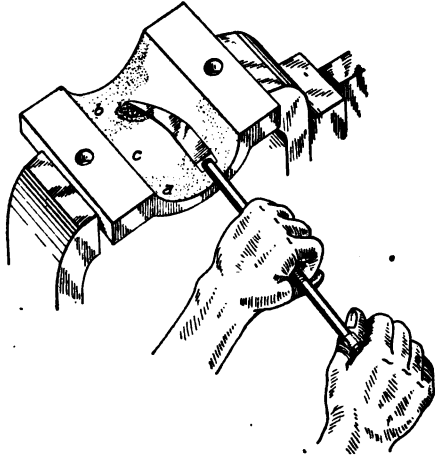
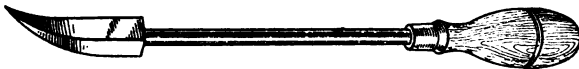

Fig. 14. Inside of Bearing Showing Spots Which Need Scraping
Fig. 15. Type of Bearing Scraper
*Scraping Process.* With the shims filed, place them in position and give the bearing another fitting. Remember the filing was done to bring the bearing together. When it is properly closed, the rod should fit tight enough to require some effort to push it around. Taking for granted that the bearing has been given a fitting and that it has been found to contain a number of black spots, as shown in Fig. 14, the scraping will be begun. For this operation a bearing
scraper, Fig. 15, is used. This may be procured at any supply store. The scraper is held as shown in Fig. 14. However, one who is accustomed to scraping may be able to handle the instrument better in another position. One very important point must be borne in mind and that is that the word scraping does not mean—as it usually does—scratching; scratching is detrimental to the bearing. By scraping is meant cutting from the surface of the bearing a very thin shaving of metal and at the same time leaving the surface of the bearing smooth.
The real object of scraping is to get the bearing to touch the crankshaft at every point. A bearing may be said to be a good one if every  $\frac{1}{32}$  inch of the surface touches the crankshaft. It will be supposed that the bearing needs scraping. It does not show little black spots every  $\frac{1}{32}$  inch. Instead there are groups of spots, at each end as at *a* and *b*, Fig. 14, while in the center portion *c* there are no spots, which means that at this point the bearing is not touching the shaft at all. The object of the scraping is to make the center portion as well as the two ends touch.